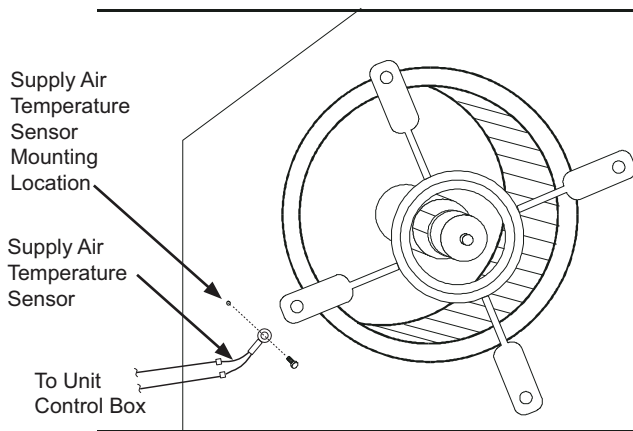

Fig. 10 — Supply Air Sensor Placement
14. The supply air temperature sensor looks like an eyelet terminal with wires running to it. The sensor is located on the "crimp end" and is sealed from moisture. Mount the supply air temperature sensor (provided) to the lower left section of the indoor fan blower housing. (See Fig. 10.) Use the screw provided and use existing hole. Connect the violet and pink wires to the corresponding connections on the supply air temperature sensor. (See Fig. 8.)
The supply air temperature sensor is a 3 K thermistor located at the inlet of the indoor fan. (See Fig. 10.) This sensor is field installed. The operating range of temperature measurement is 0°F (-18°C) to 158°F (70°C). See Table 5 for sensor temperature/resistance values. The temperature sensor looks like an eyelet terminal with wires running to it. The sensor is located in the “crimp end” and is sealed from moisture.